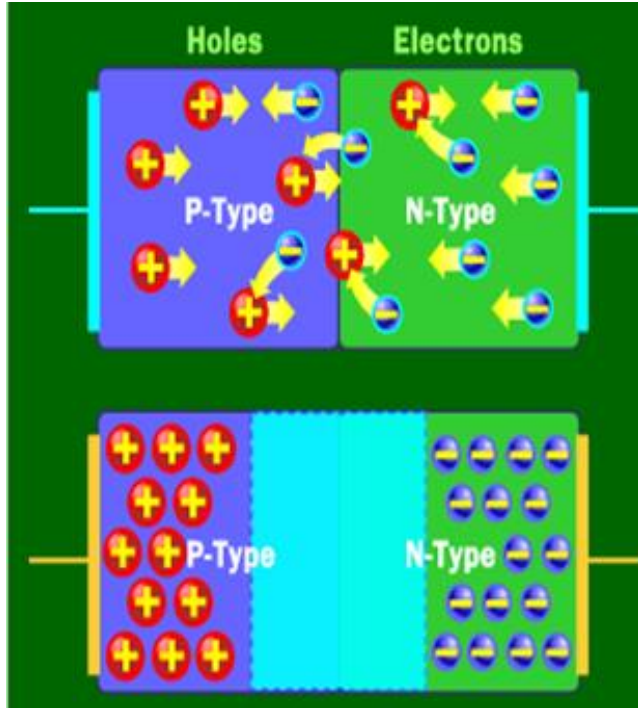

Figure 2.3: Depletion Zone
- When a diode is absent of a voltage source, the protons and electrons are aligned in their proper layers (as shown in Figure 2.3) by default.